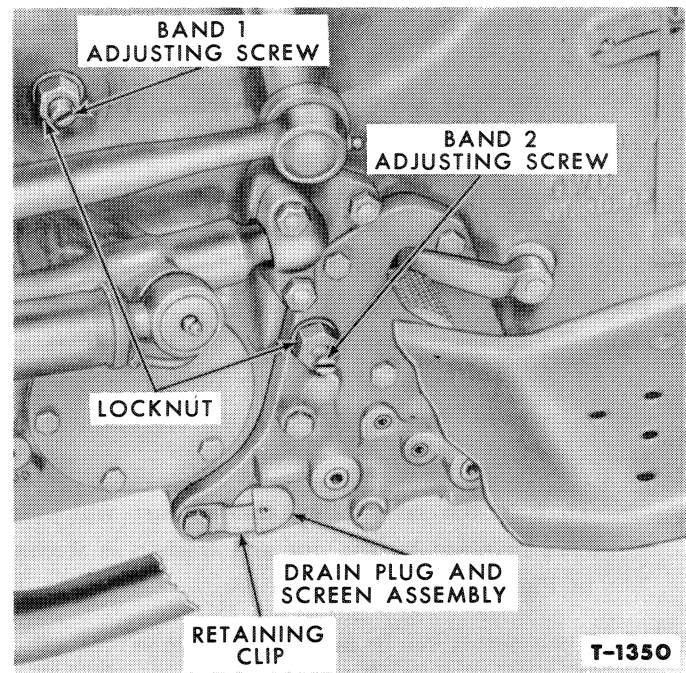

Figure 69—Select-O-Speed Transmission—Left Side
1. Loosen the hex head bolt, shown in Figure 69, which secures the drain plug and screen assembly in the interlock cover by means of a retainer.